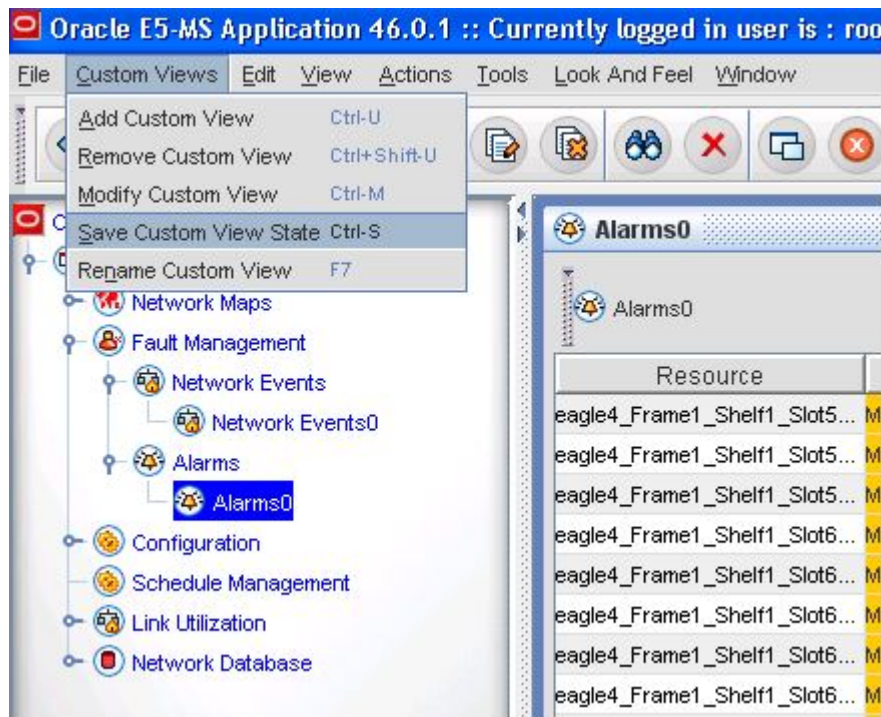

Figure 110: Saving Custom View By Using Menu Bar
- From the **Custom Views** menu in the top menu bar, choose **Save Custom View State** as shown in *Figure 110: Saving Custom View By Using Menu Bar*.